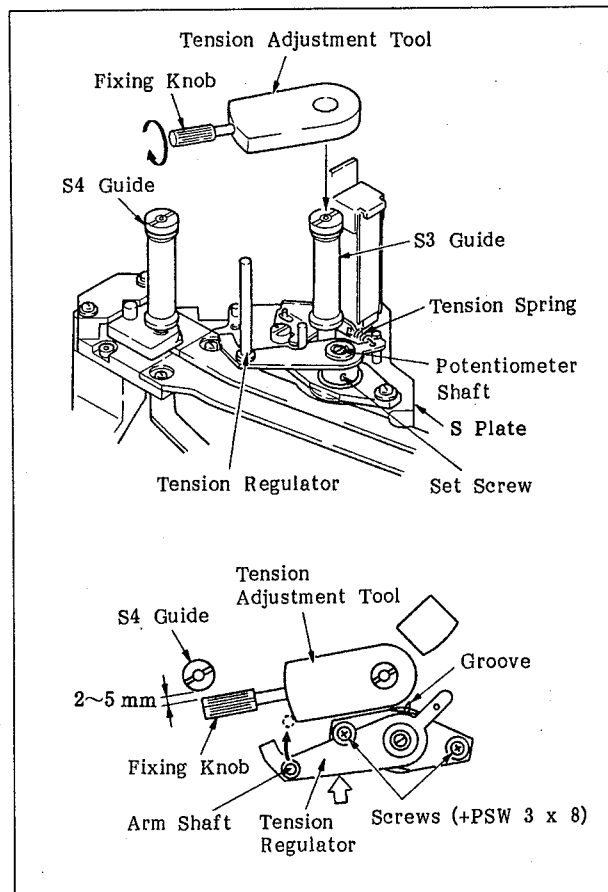

Fig. 9-6-1 Tape Tension Adjustment
3. Press the **F3** (C), the **4**, the **SET**, the **F6** (F), the **2**, the **SET**, and the **<** keys in that order to set the unit in threading condition without threading a cassette tape.
4. Loosen the two set screws (+PSW 3 x 8) that hold the tension regulator by one or two turns. Match the groove of the tension regulator to the groove of the S plate, as shown in Fig. 9-6-1 and then tighten the set screws.
5. Put the tension adjustment tool over the upper flange of the guide roller and tighten the fixing knob while pushing the tool down. (Fig. 9-6-1)
8. Rotate the potentiometer shaft clockwise slowly with a screwdriver and find the point where the indicated value of the digital voltmeter changes from the positive value to the negative value. Then obtain the central value (V) from the maximum value and the minimum value.
9. Push the position indicated by the arrow to push the arm shaft of the tension regulator against the tension adjustment tool, as shown in the top view of Fig. 9-6-1. Adjust by rotating the potentiometer shaft so that the indicated value of the digital voltmeter satisfies the following specification.
**Standard: Central value (V)  $\pm 50\text{mV}$**
**Standard: Central value (V)  $\pm 150\text{mV}$**
14. Loosen the two set screws (+PSW 3 x 8) that hold the tension regulator by one or two turns and then push the arm shaft of the tension regulator against the tension adjustment tool. (Fig. 9-6-1)
15. Adjust so that the indicated value of the digital voltmeter satisfies the following specification by inserting the screwdriver in the groove, shown in the top view of Fig. 9-6-1, and rotating it. If the adjustment cannot be made, repeat Steps 4 through 15.
17. Press the [F5] (E), [F2] (B) and [SET] keys on the control panel in that order to indicate the tension regulator output on the display of the control panel.
19. Push the arm shaft of the tension regulator against the tension adjustment tool, as shown in the top view of Fig. 9-6-1.